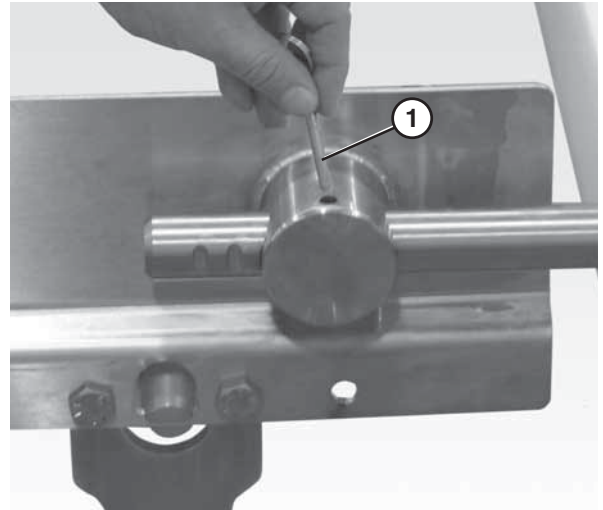

Figure 59
1. Remove the pull pins (Figure 59, item 1) on the tension end of the conveyor to release tension on the belt.